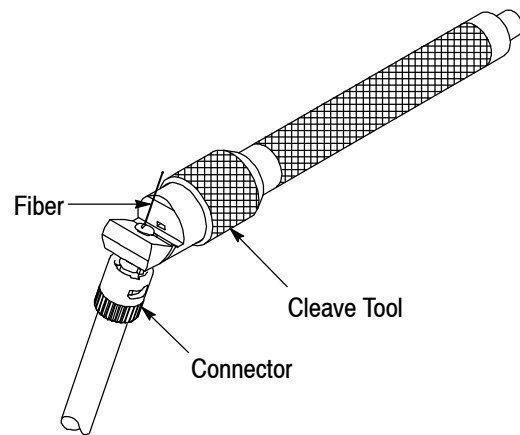

Figure 14
- 1. Insert the connector into the side of the cleave tool so that the protruding fiber is guided through the slot in the tool. See Figure 14.